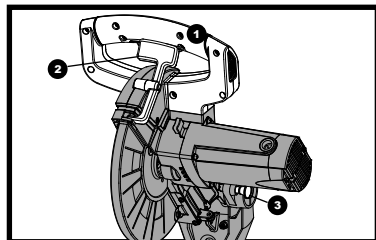

Fig 4
1) Push down slightly on the switch handle (1) and the lock lever (2).
2) Pull out the stop latch knob (3).
3) Allow the cutting head to rise to the up position. (See fig. 4)